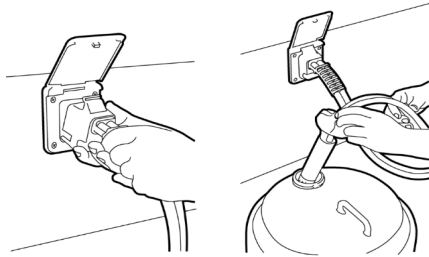

Fig. 2
3. Adamo - Fill the tank via an aqua roll and submersible pump plugged into the Whale pump inlet on the side of the motor home Fig. 2.